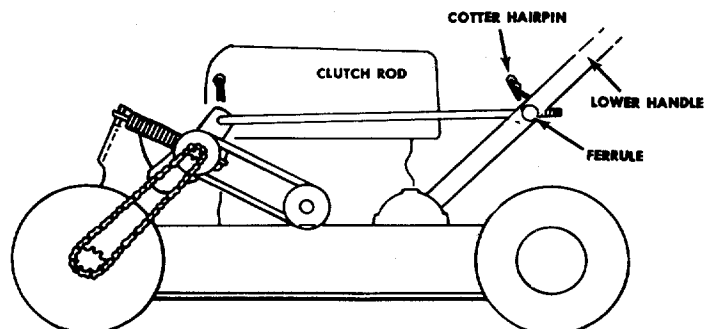

FIGURE 6.
9. Place adjustment rod with ferrule through hole in lower right hand handle. (See figure 6.) NOTE: Ferrule and adjustment rod must be to the outside of handle as shown in figure 6.